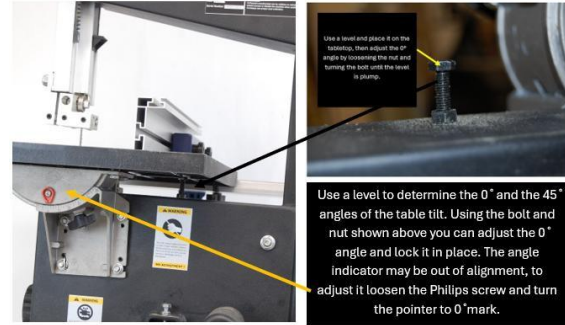

Figure 26: Table tilt adjustments.
- 6- Once this is done the 45° angle should be readily available. See Figure 26.